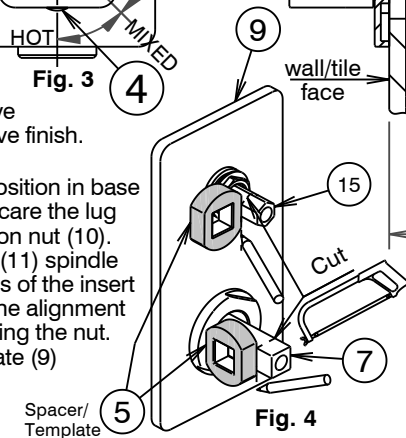

Fig. 4
- * This mixer accommodates inwall depth from 65 - 75mm. For installations with less than 75mm the handle inserts (15) & (7) must be cut by using spacer (5) as a template, (Step 3 & Fig.4.)
- 3) Using the handle spacer (5) as a template, place the flat side of the spacer against the front surface of the sleeve (8) & scribe a line around the plastic insert (7) as shown (Fig.4). Now place the flat base of the spacer against the front surface of the diverter sleeve (14) & scribe a line around the plastic insert (15) as shown. Carefully cut the plastic inserts (7 & 15) along the marked lines (if required) and remove any burrs.